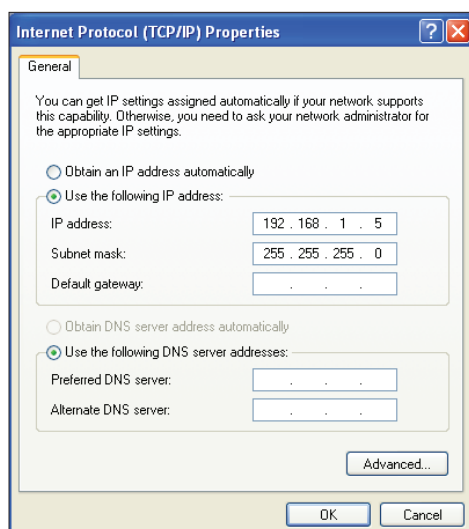

Figure 7: Internet Protocol Properties Window
- 6.) Select the radio button in front of **Use the following IP address (Figure 7)** and write down the current defaults so that you can re-enter them when you finish configuring the PT-Link II and then type in the following information:
- 6.) Choose **Internet Protocol Version 4 (TCP/IPv4)** by highlighting it and then click **<Properties>**. The *Internet Protocol Properties Window* will appear (Figure 7).
- 7.) Select the radio button in front of **Use the following IP address (Figure 7)** and write down the current defaults so that you can re-enter them when you finish configuring the PT-Link II and then type in the following information: